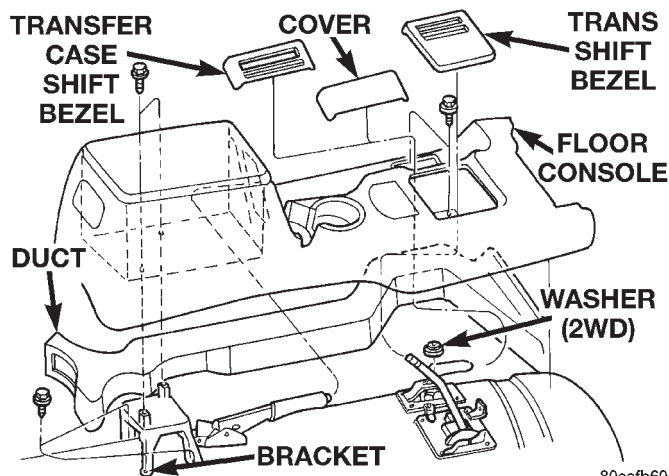

Fig. 78 Floor Console
(1) Remove the transmission shift lever handle/knob:
(2) Insert a thin-blade tool under the edge of the transfer case shift indicator bezel or cover plate and pry up to remove.
(3) Open the console lid.
(4) Remove the screws attaching the console to the floor and mounting bracket (Fig. 78).
(5) Disconnect the wire harness connector.
(6) Separate the console from the floor.